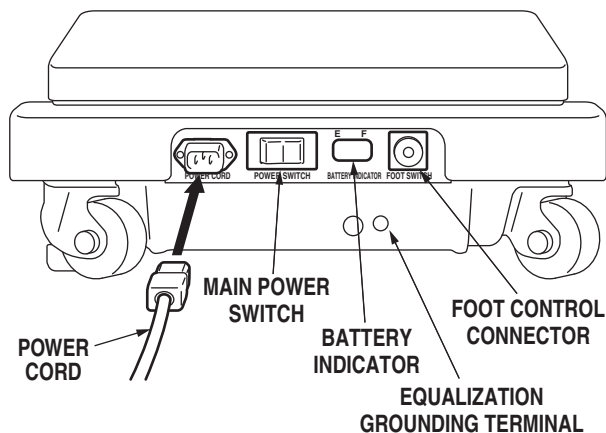

Figure 2-1. Electrical Panel
a. Make sure the Power cord is securely attached to the table. To install the power cord, align the cord connector with the base connector, insert the cord and twist clockwise to lock the cord into the connector. See figure 2-1. Plug the cord into a properly grounded, Hospital Grade, 100 - 240 VAC outlet. Make sure the power cord is routed to the outlet to prevent it from being in the way of operating personnel. To remove the power cord, and pull the cord connector out of the base connector.